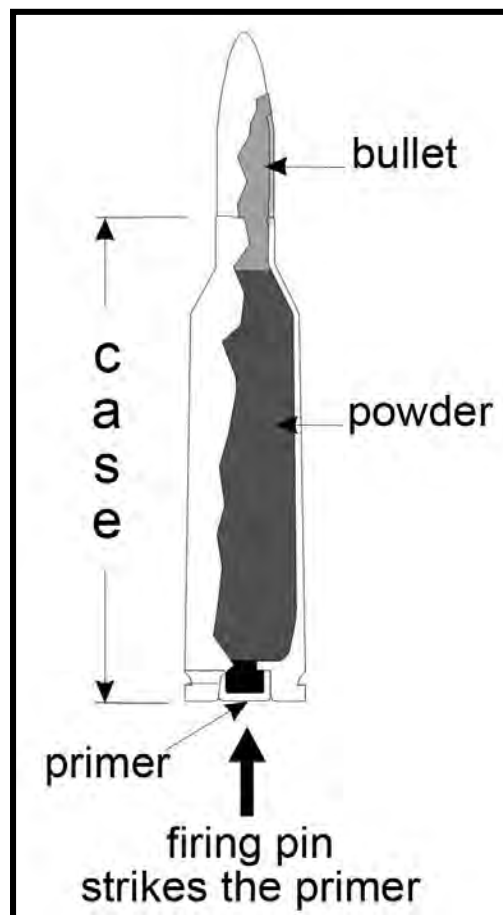

Figure 22. Centre-fire Cartridge
- b. **Centre-fire** ammunition (Figure 22) is used for higher power firearms. The primer is located at the centre of the base of the cartridge case. The firing pin strikes the primer. This explodes the priming compound. This in turn ignites the powder charge.